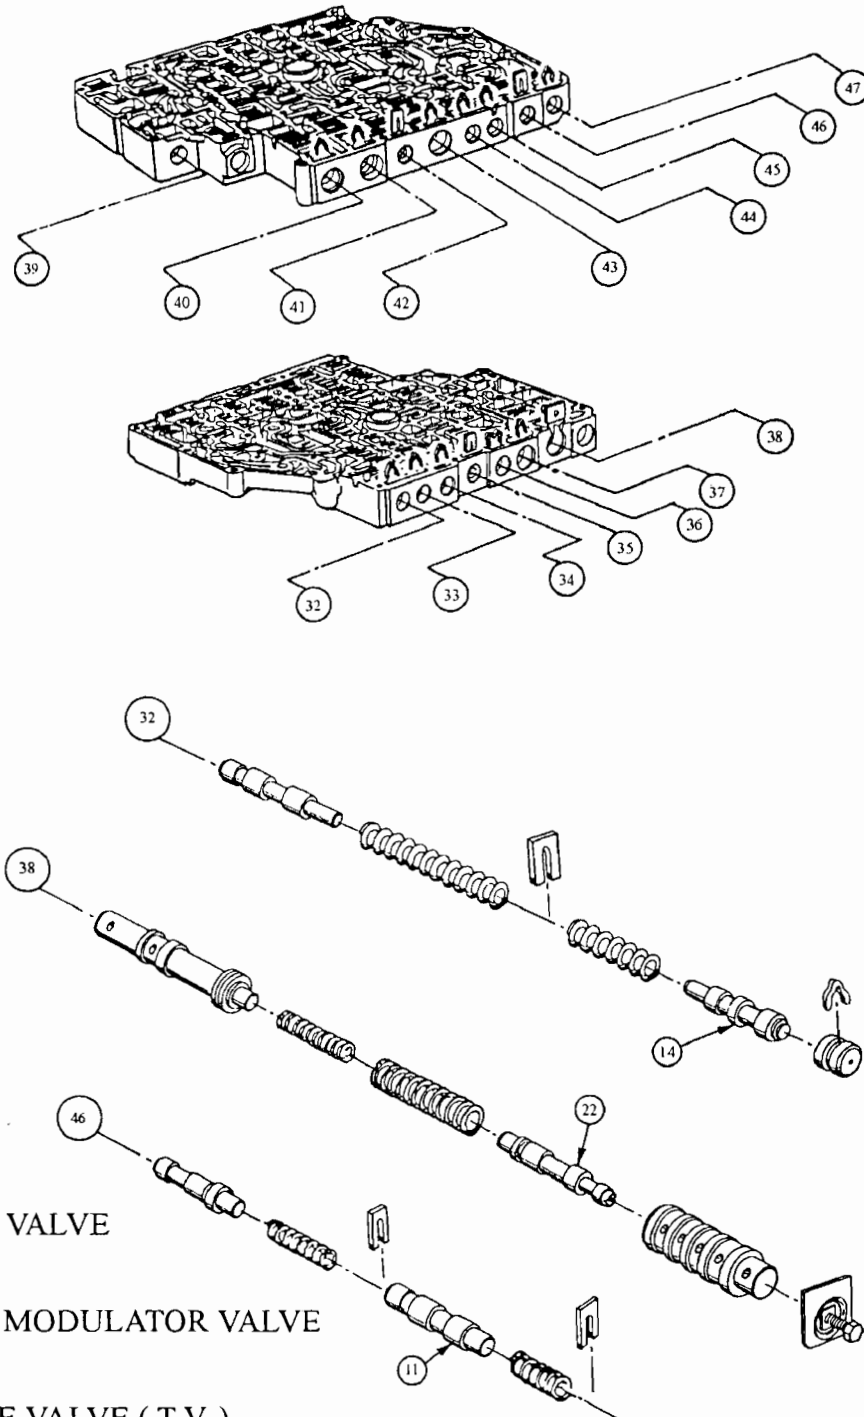

Figure 20
2. Check the T.V. Valve in the valve body to ensure it is not stuck (See Figure 20).
3. Check the T.V. Limit Valve in the valve body to ensure it is not stuck, and location is shown in Figure 20.
4. Check the T.V./Line Modulator Valve in the valve body to ensure it is not stuck and is installed in the proper direction, as shown in Figure 20.